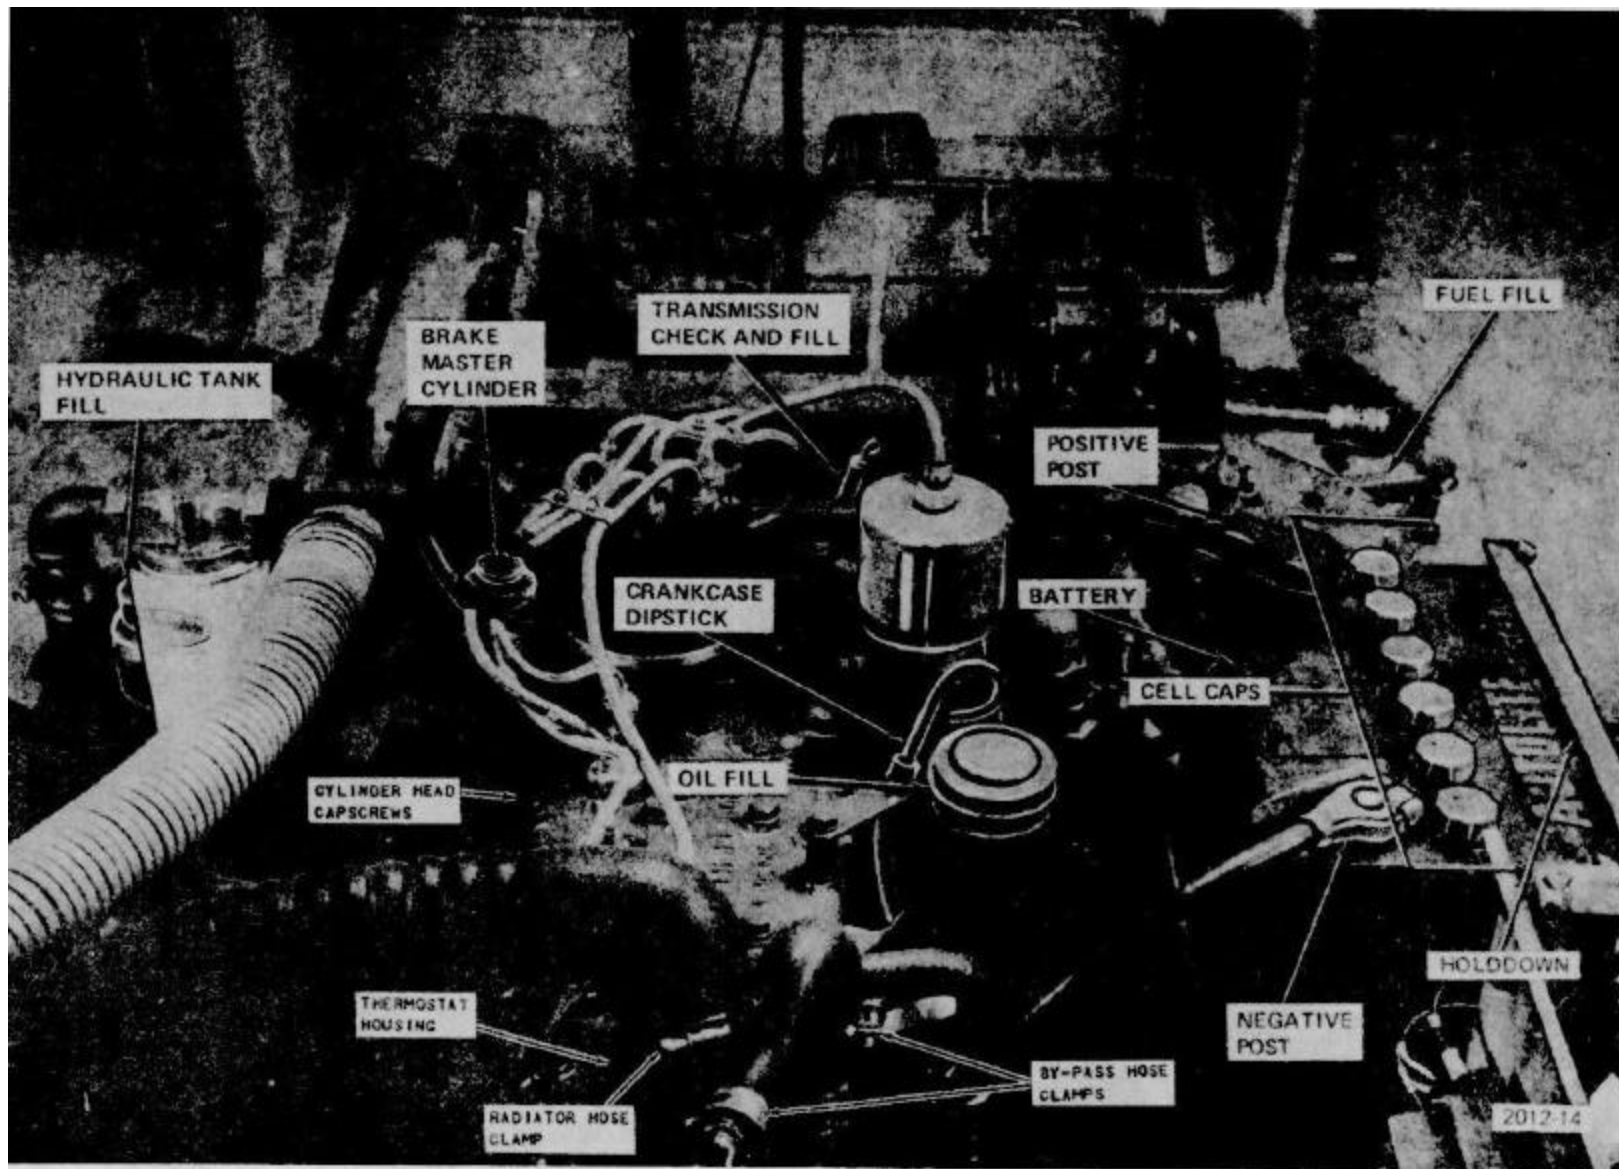

Figure 3-1. Check Points Before Use
3-4. ENGINE OIL. Before starting the engine, raise engine compartment cover and check the oil level in the crankcase. The oil fill pipe and bayonet type dipstick are located on the right side of the crankcase (see figure 3-1). Add oil as necessary (LO 10-3930-623-12) to bring the level to the upper mark on the dipstick. Use a grade of oil appropriate to the lowest expected temperature. Never operate the truck with the oil level below the LOW mark on the dipstick, nor add oil so that the level will be above the upper mark on the dipstick.
3-8. BATTERY (see figure 3-1). Check electrolyte level. Add distilled or mineral-free water as needed.
b. Remove hose clamps (fig. 3-1) and upper hose. Remove hose clamp and bypass tube from elbow on cylinder head water outlet connection.